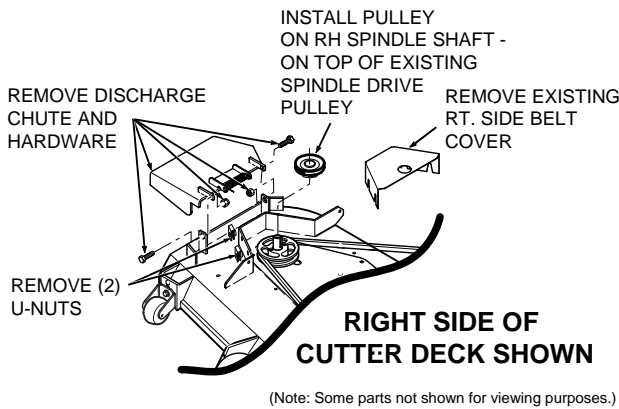

FIGURE 4-1
2. Remove the discharge chute from the cutter deck. See Figure 4-1.
4. Remove the right side belt cover to gain access to the spindle assembly. Remove the two front u-nuts from the cutter deck bracket. See Figure 4-1.
5. Install the grass catcher pulley onto the spindle assembly. Apply loctite to both pulley setscrews and tighten. See Figure 4-1.